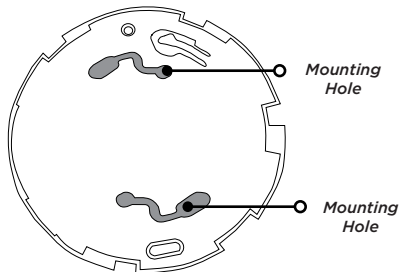

Figure 3: Mounting Hole Locations
2. Use the supplied screws and anchors to mount the base to the surface. See Figure 3.